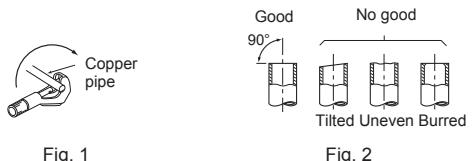

Fig. 1
- 1) Remove the electrical cover (1).
- 3) Attach the conduit pipe to the conduit plate with the lock nut. The indoor/outdoor unit connecting wire (◎) appearing from the inside of conduit pipe should be less than 7/8 in. (23 mm). (Fig. 1)
- 1) Cut the copper pipe correctly with pipe cutter. (Fig. 1, 2)